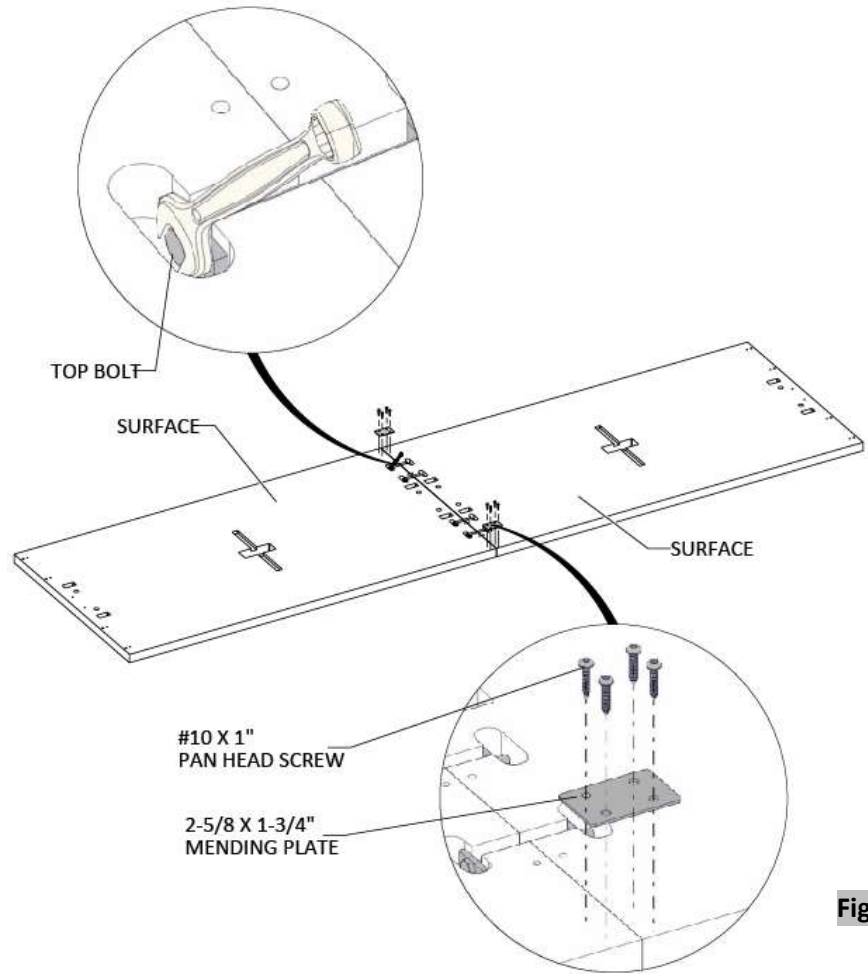

Figure 2
2. Place the top bolt into the groove. Tighten the bolt using a box wrench, (Figure 2).
3. Attach the mending plates, using #10 X 1" Pan Head Screws, (Figure 2).